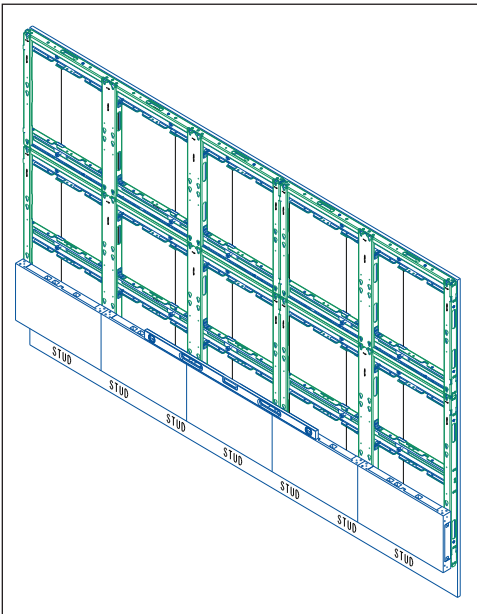

Figure 21: Install Remaining Panels in Bottom Row
- 5. Repeat **Steps 1-3** for the remainder of the first row. Refer to **Figure 21**.